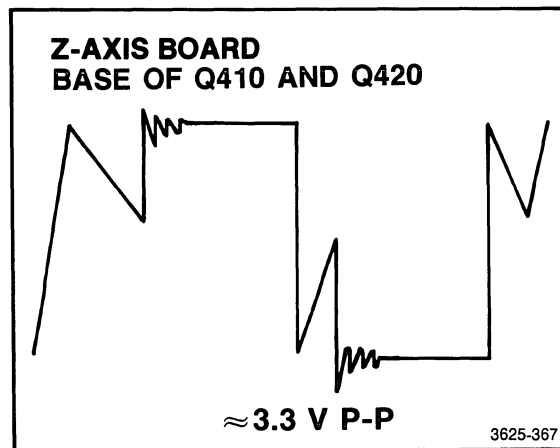

Figure 5-70. Color Display Monitor power supply waveform (horizontal 10 μ s/div., vertical 5 V/div).
10. With the oscilloscope, observe the voltage at TP105 on the Z-axis board. The waveform should look like Figure 5-70.